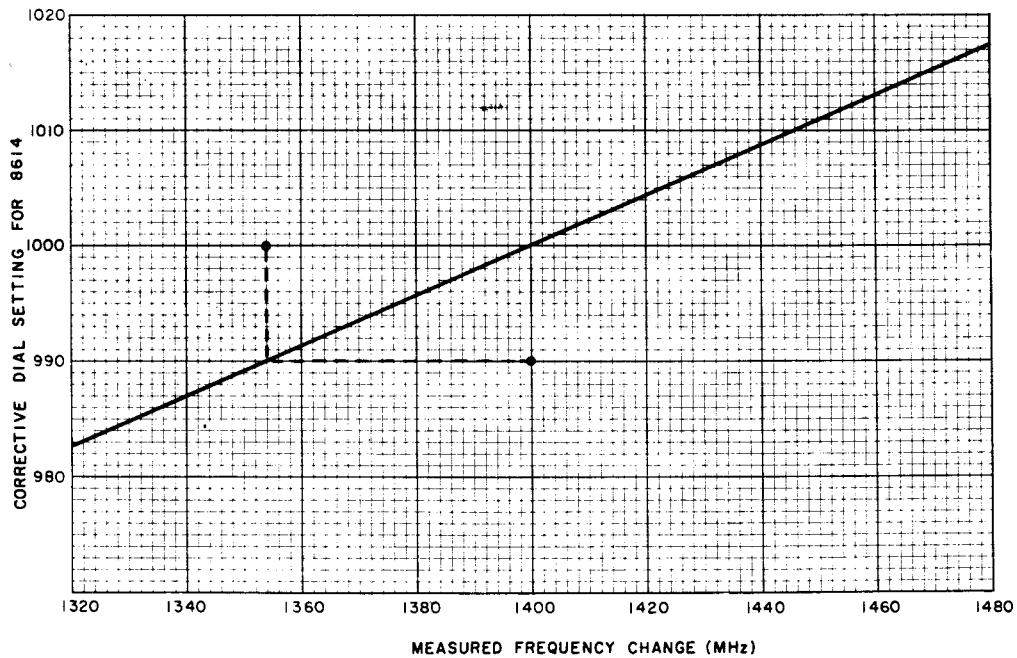
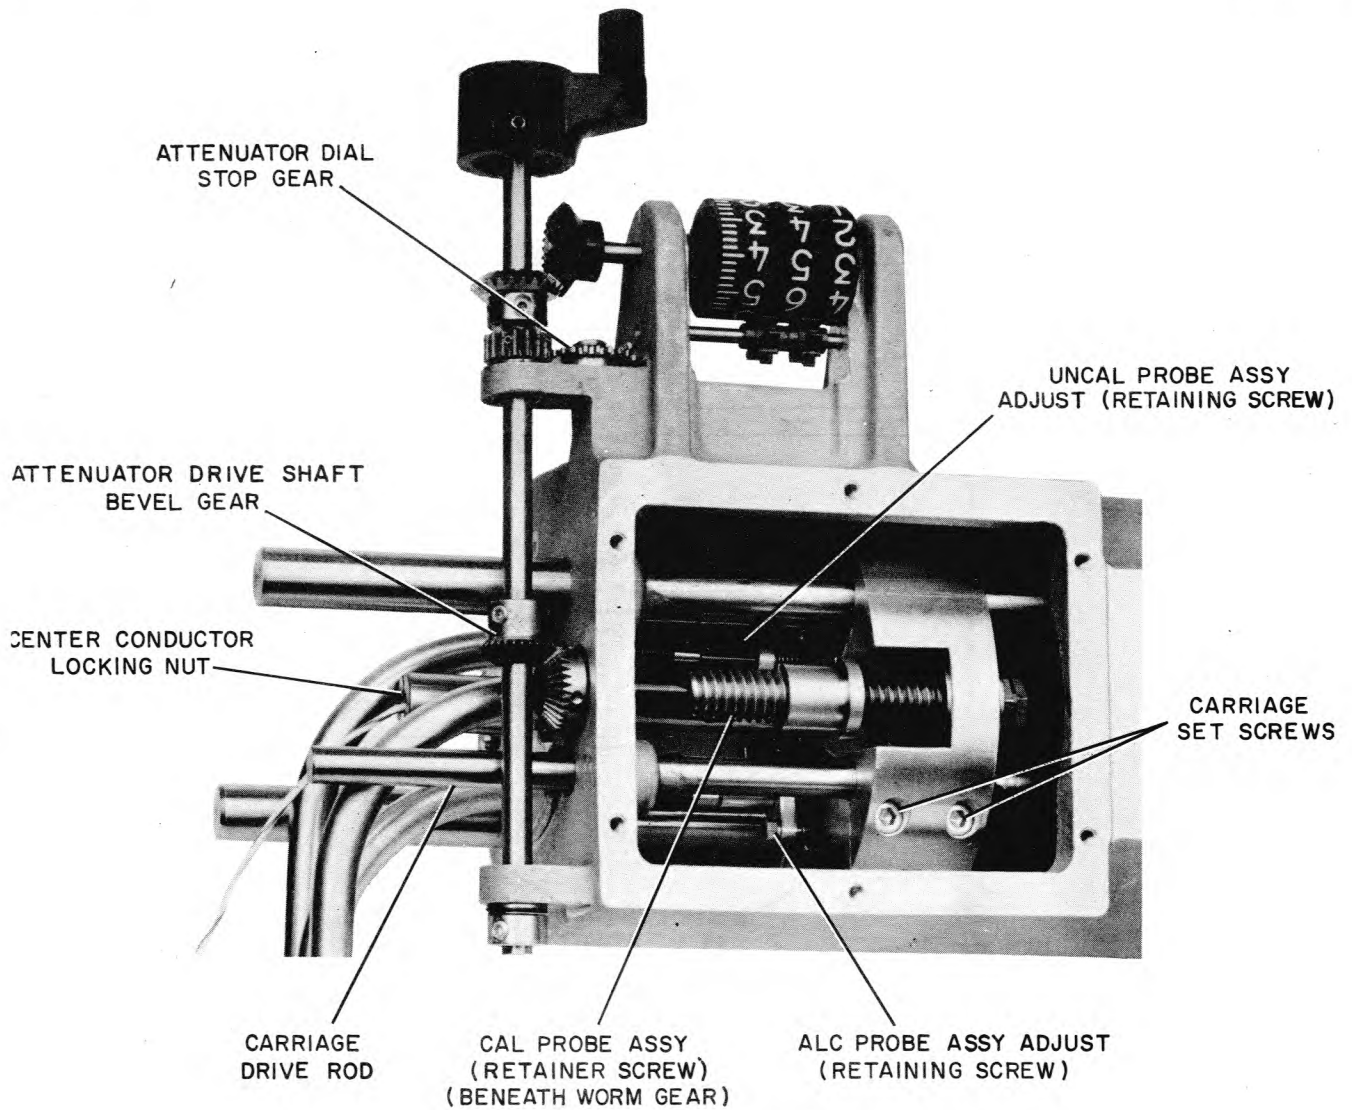

Figure 5-15. Frequency Range Spread Correction Curve
Figure 5-16. Probe Assembly Adjust
c. Refer to graph, Figure 5-15. The horizontal axis represents the measured frequency change from step b, the vertical axis indicates the dial corrective setting. For example, if the difference between dial settings (step b) is 1354 MHz, the corrective setting for the dial as found on the graph is 990 MHz. To make correction, set frequency dial to 1000 MHz, loosen the two setscrews that clamp dial plunger to rack, hold dial plunger stationary, and set dial to 990 MHz. Tighten two setscrews (see Figure 5-16).
i. If frequency dial reading errors are greater than ± 5 MHz, shifting the dial may bring all errors within specification. If shifting dial will not sufficiently correct errors, it may be necessary to shift position of center conductor support rod (see Figure 5-16). The center conductor is notched at end closest to right side of instrument and may be loosened and then adjusted "in" "out" of klystron cavity. Notch or scratch center conductor rod so that original position may always be known. If overall frequency error was positive, adjust center conductor toward right side of instrument. If overall error was negative, adjust center conductor toward left side of instrument. When adjusting center conductor position, never change by more than about 20 thousandths of an inch at a time.